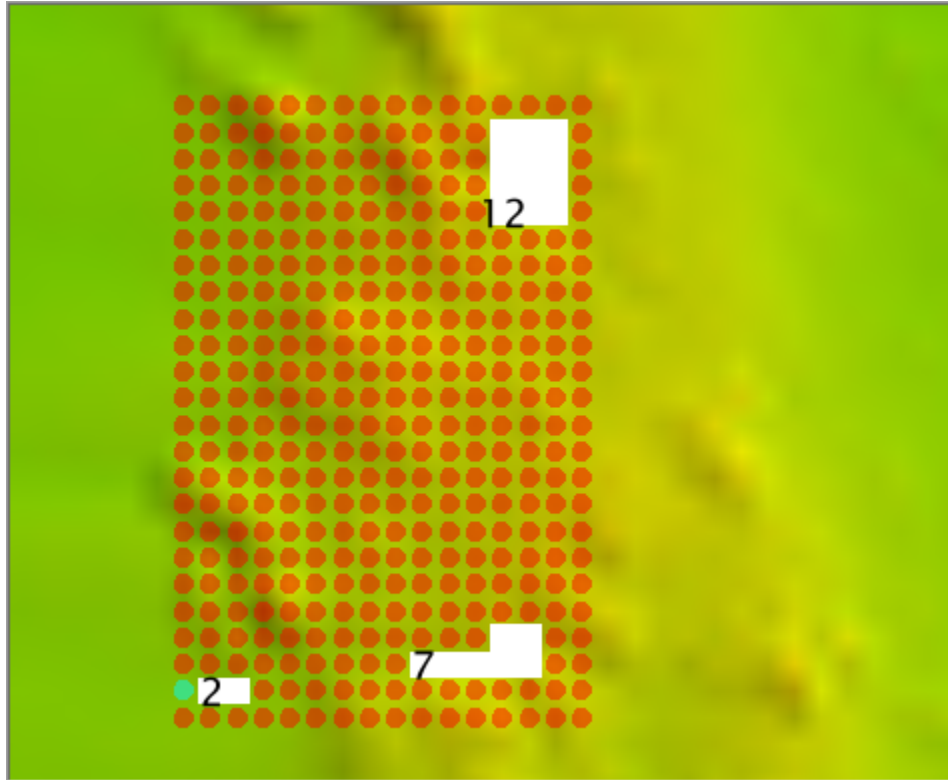

Fig. 2.16: Example for All holes.
- In the example in (Fig. 2.16), the **All holes** setting marks three holes of 12, 7, and 2 nodes.